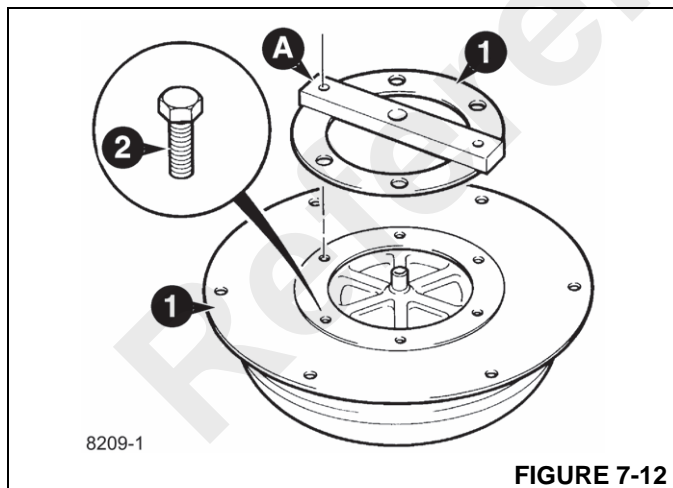

FIGURE 7-12
2. Place the torque converter alignment tool A (Figure 7-12) over the torque converter spigot, making sure that the tool locates in two of the converter bolt holes as shown. It is important to note that the converter drive tube must be protected against damage or contamination at all times.